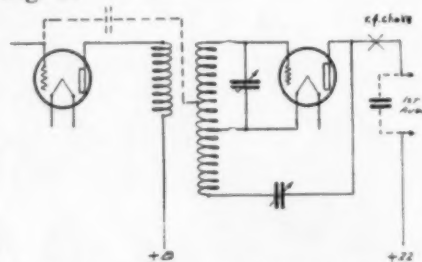

Fig. 2. Capacity Feedback Through Series Condenser and Inductance.
(2) As many persons object to the tickler adjustment, the tickler can be wound as a continuation of the grid coil (with a tap between) and a condenser may be provided as a control, acting therefore as capacity feedback, shown in Fig. 2.